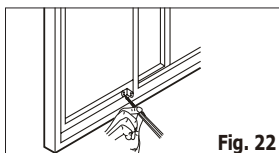

Fig. 22
7. To secure the sliding sash in place, attach right angle sash lock with 1/2" (12.7mm) screw as shown.(Fig.22)